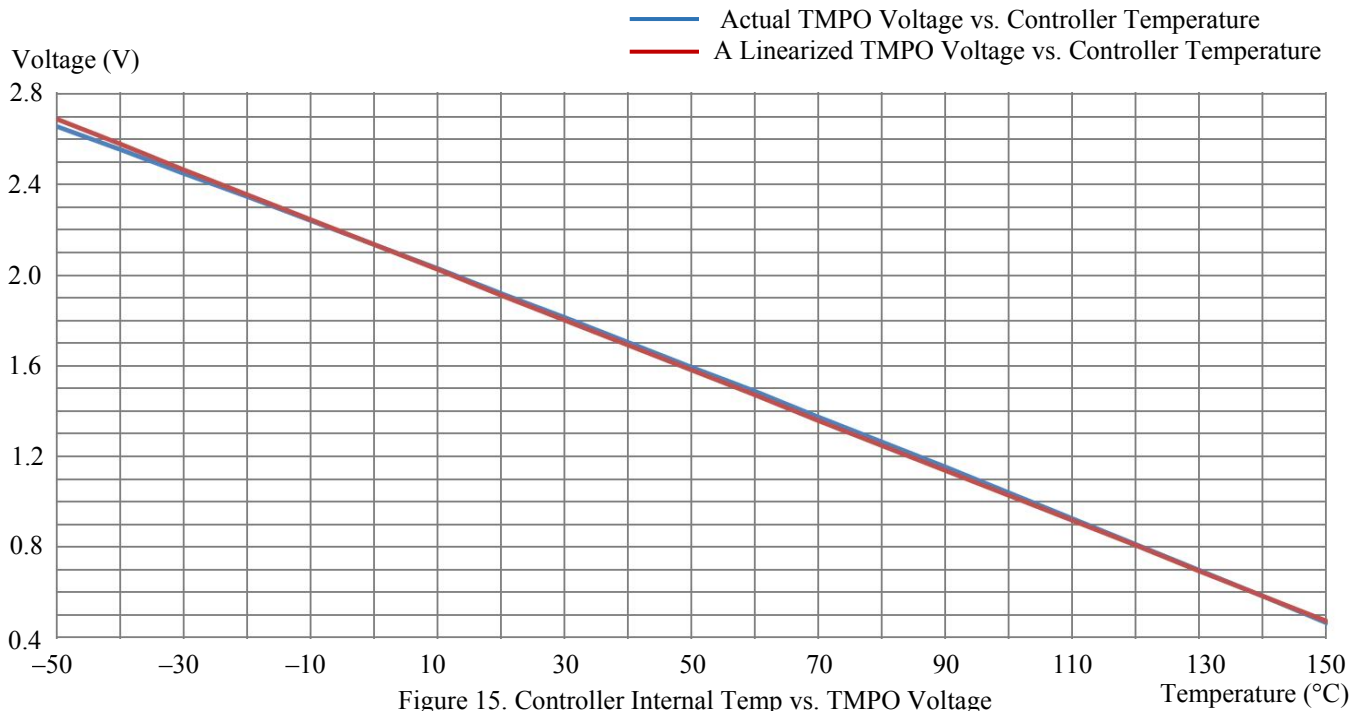

Figure 15. Controller Internal Temp vs. TMPO Voltage
calculated data by using the formula (1) and the approximated data obtained by using the linear equation (2) is about 0.4°C, with the linear data being a little lower. The curves of the 2 sets of the data are plotted in Figure 15.